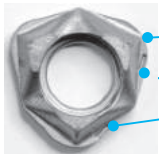

Fig. 1
2. The shim must be mounted in the proper direction. While aligning the surface of the shim with the mark on it to the corresponding constraint surface (Ref. to Fig. 1) and lightly pressing the shim toward the constraint surface (Ref. to Fig. 2), insert the screw into the hole of the shim and tighten (Ref. to Fig. 3). When tightening the screw, make sure that the screw is vertical to the bearing surface (Recommended tightening torque is 6.0N·m).